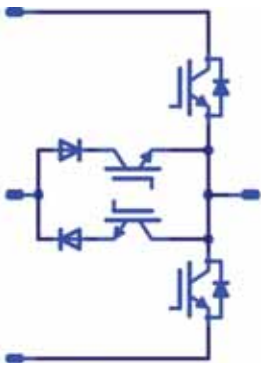

Figure 11: Mixed voltage NPC circuit
- Mixed voltage NPC [6] (see Figure 11). The output current faces only one junction, leading to reduced static losses.